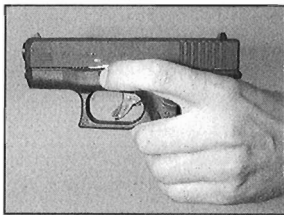

Figure 7
- Point the Pistol in a safe direction, push in the slide lock/laser switch with the trigger finger until a click is felt (Figure 7). The yellow dot will be visible.